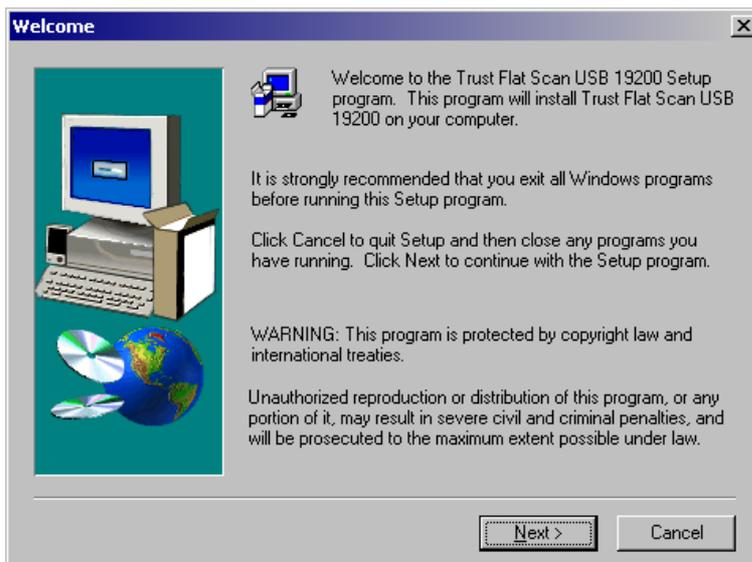

Figure 4: Installing the Trust Flat Scan USB 19200
6. Click on 'Install Trust Flat Scan USB 19200'. Figure 4 will appear.